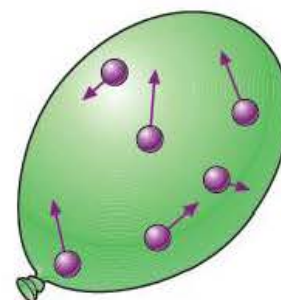

Figure 2.6 Particles in a gas.
- In a gas, the particles are far apart. They move very fast and randomly in all the space they can find (Figure 2.6).